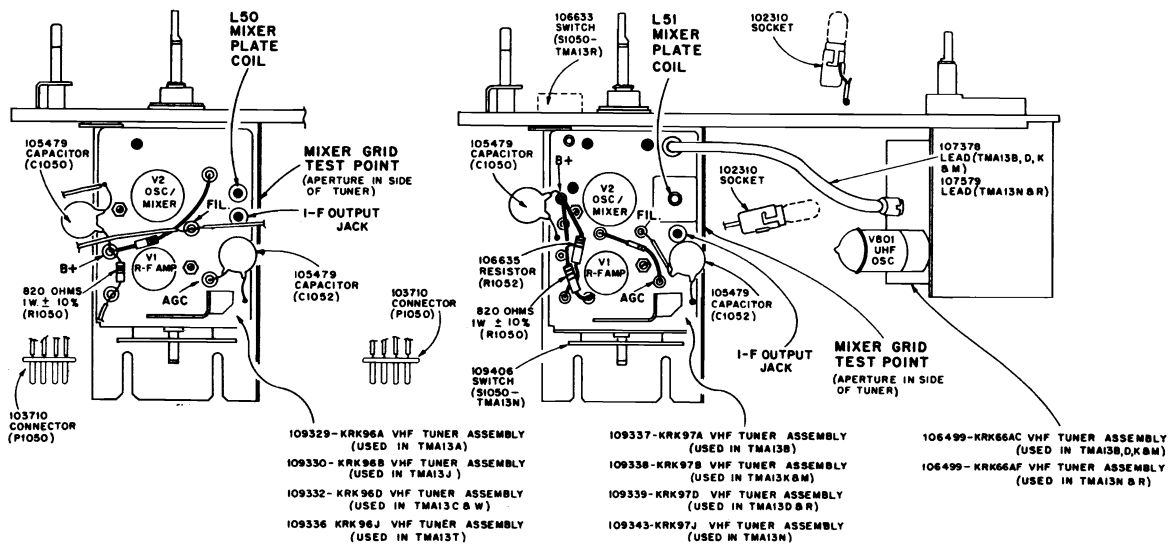

Figure 21—TMA13A, B, C, D, J, K, M, N, R, T & W Tuner Mounting Assembly Parts Identification
- SIGNAL GENERATOR** Connect to mixer grid, at strap on S1B for KRK96 and KRK97 series tuners or to test point TP2 for KRK87 series tuners, in series with 1500 mmf. capacitor. See Figure 21.
- SWEEP GENERATOR** Connect in series with 1500 mmf. to S1B (or TP2 on KRK87 series tuners) at mixer grid. Use shortest leads possible. See Figure 21.
- MISCELLANEOUS** Refer to Figures 21 and 31 for adjustment locations.